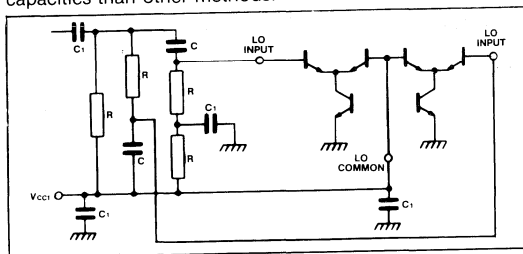
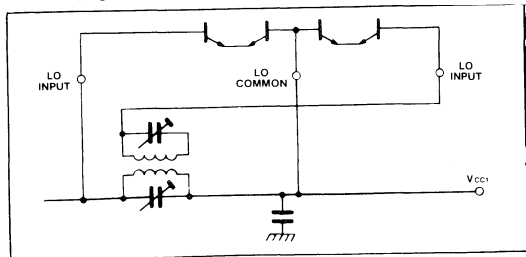
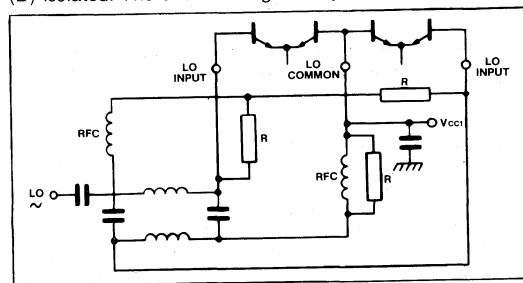

Fig.7 Quadrature LO drive
Fig.8 Quadrature LO drive using tuned circuits
Fig.10
The form of the quadrature network is not critical. However, the use of an RC network as in Fig.7 has the disadvantage at VHF of being more subject to stray capacities than other methods.
In the circuit of Fig.7, C_1 is a bypass capacitor, while $X_C = R$ at the operating frequency. Note that the resistances between the local oscillator inputs are equal to minimise DC offsets. The quadrature network can be achieved by coupled circuits (Fig.8) or a hybrid network (Fig.10).
In the method shown in Fig.8, the tuned circuits are adjusted to resonance, and are then detuned, one HF and the other LF, to achieve a 3dB drop in output from each one. This gives a $+45^\circ$ and -45° relative phase shift.
The phase relationships are (A) input, (B) 90° , (C) 0° and (D) isolated. The circuit of Fig.10 may be used.